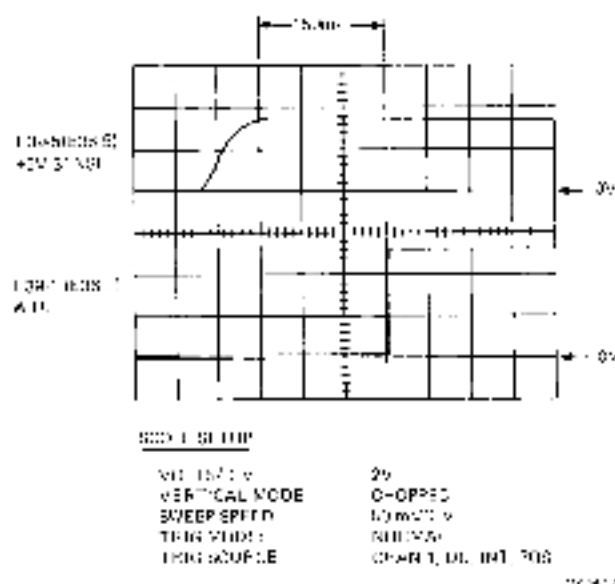

Figure 6-2 DC Wake-Up Waveform
3. Connect channel 1 of scope to E39-5/E36-5 (+5 volt sense). Connect channel 2 of scope to signal WU at E39-1/E36-1. Set up scope according to Figure 6-2.
4. Apply power to the terminal and check for waveshape of Figure 6-2. The WU (Wake Up) signal should go high approximately 150 ns after +5 volt sense reaches the peak of its ramp. Turn power off and on to repeat the waveshape.